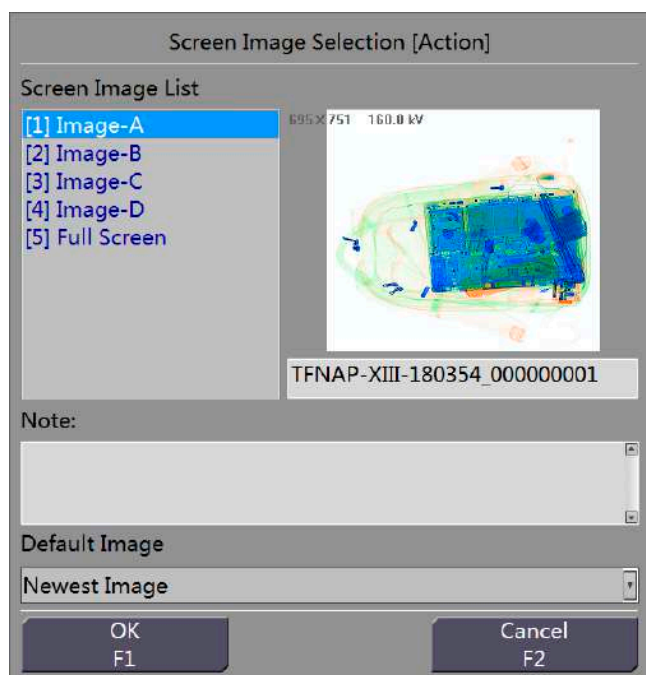

Figure 14-11 Screen Image Selection Interface
Step 1 Press  on the operation keyboard or right-click on the image inspection interface and choose Process Screen Image from the shortcut menu as shown in Figure 14-11.